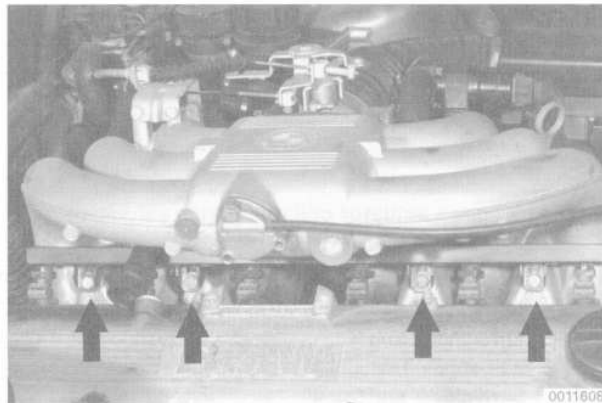

Fig. 17. Fuel rail mounting bolts (arrows) on M20 engine.
6. Remove the fuel rail mounting bolts (4). See Fig. 17.